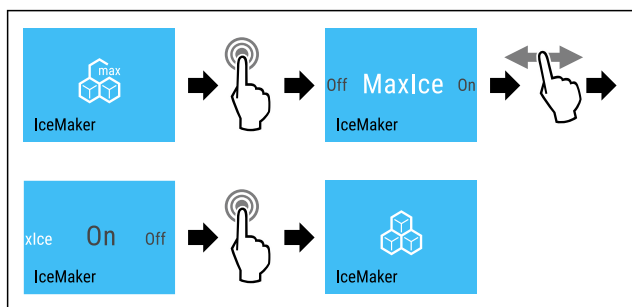

Fig. 19
- ▶ Complete the steps (see Fig. 19).